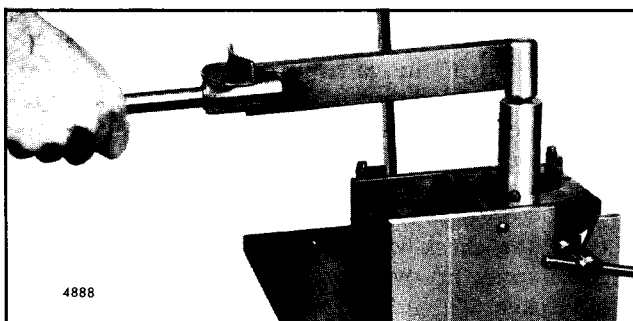

Fig. 34 - Tightening Injector Nut with Torque Wrench using Tool J 4983-01
6. Use socket J 4983-01 and a torque wrench to tighten the injector nut to 55-65 lb-ft (75-88 Nm) torque (Fig. 34).